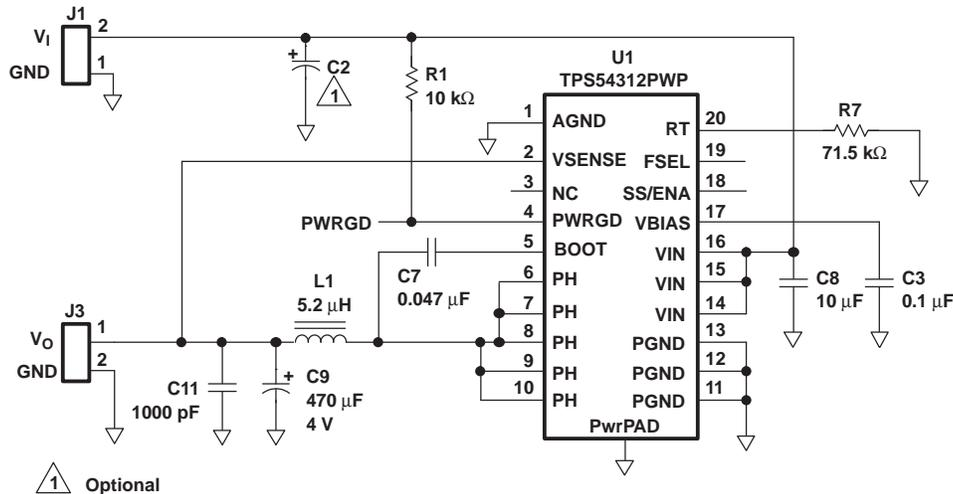

Figure 10. TPS54314 Schematic
(1) Specified by design
(2) Static resistive loads only
(3) Specified by the circuit used in Figure 10.
(4) To ensure proper operation when RC filter is used between external clock and FSEL pin, the recommended values are $R \leq 1\text{ k}\Omega$ and $C \leq 68\text{ pF}$.
Figure 10 shows the schematic diagram for a typical TPS54314 application. The TPS54314 (U1) can provide up to 3 A of output current at a nominal output voltage of 1.8 V. For proper thermal performance, the PowerPAD underneath the TPS54314 integrated circuit needs to be soldered to the printed circuit board.